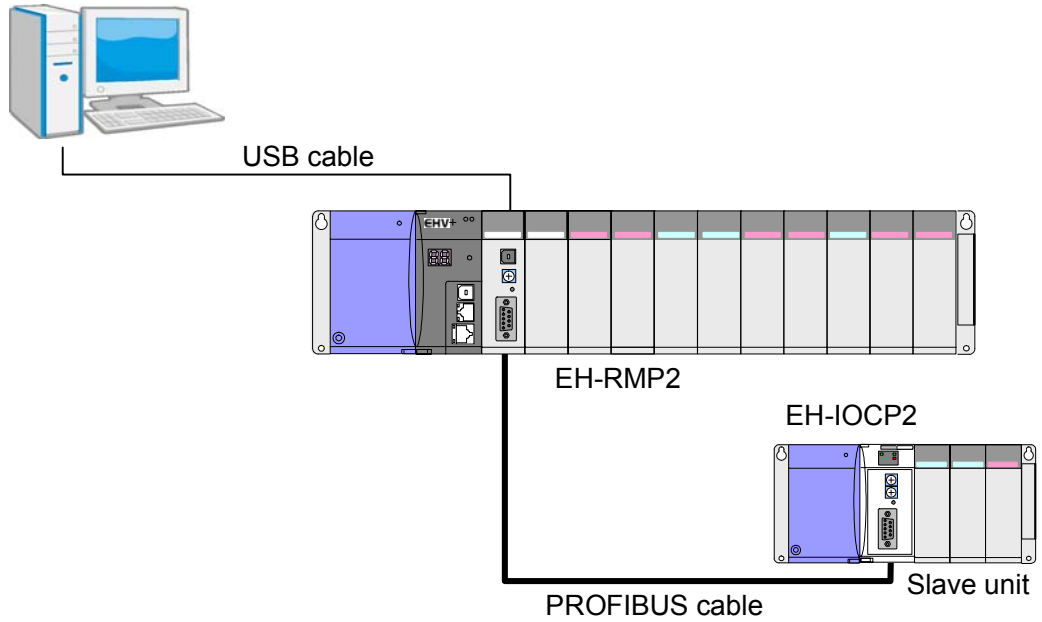

Figure 4.1.3-1 Configuration from configurator
(1) Set up as shown in Figure 4.1.3-1, turn on power to the EH-RMP2 and connect the USB cable to config port.
(4) Set up as shown in Figure 4.1.3-1. After turning on the power of EH-RMP2, connect the USB cable to config port. (If a power supply is turned ON, with a USB cable connected, it will be detected as a device unknown at Windows.)
(5) Double-click the ”netX” in the main screen and click the “Driver”.